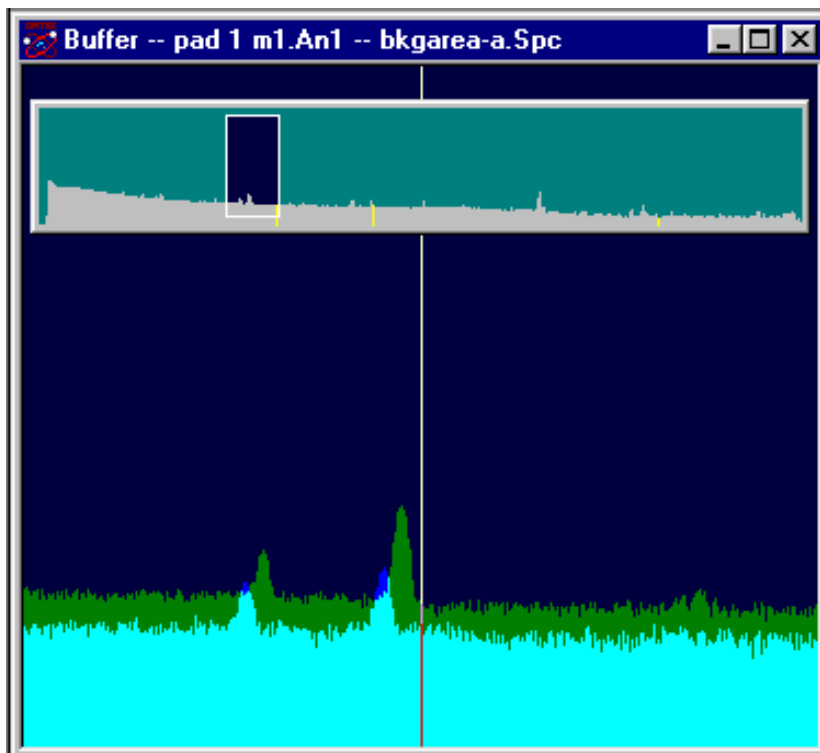
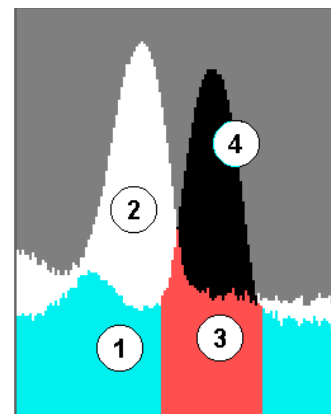

Figure 32. Compare Mode Screen.
Figure 33. Spectrum Colors in Compare Mode.
This function displays a spectrum from disk along with the active spectrum so the two can be visually compared. When **Compare Spectra...** is selected, a standard file-recall dialog box opens so you can choose the desired spectrum. The active spectrum window then shows both spectra, as illustrated in Fig. 32.
Figure 33 is a detailed view of a spectrum comparison similar to that in Fig. 32. In this illustration, the starting spectrum is displayed in color (1), the Compare spectrum is shown in color (2), the starting spectrum ROIs are marked in color (3), and the portion of the starting spectrum that exceeds the Compare spectrum is indicated by color (4). These